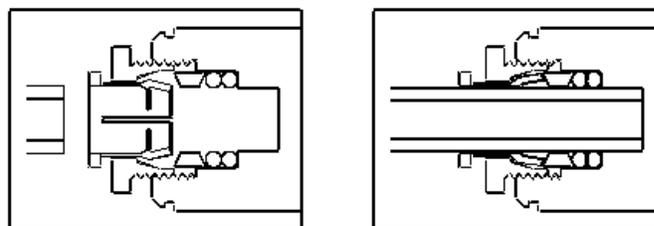

FIG. 1
4. **CAUTION: If supply pressure will ever exceed 100 psi, install a pressure regulator to limit the inlet pressure to the filter to 100 psi or below. DO NOT ATTACH HOT WATER LINE TO FILTER.** To make connections on the filter head, loosen locknut. Push the tube end past both o-rings to a positive stop in the filter head recess - approx. 1", locknut may have to be backed out a little more. Screw the locknut hand tight to seal (See Fig. 1). Ends of tubing must be cut square and free of burrs and sharp ends that could cut or nick the o-rings.